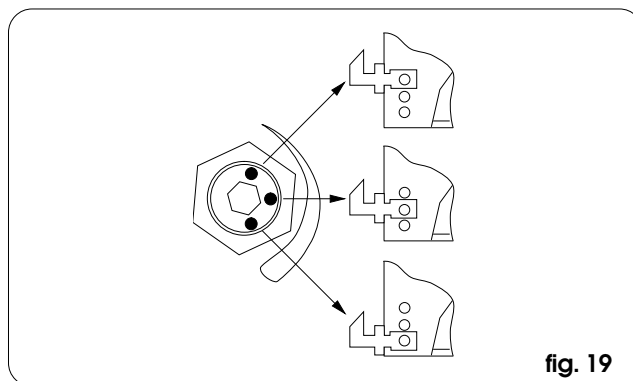

fig. 19
- depending on the height adjustment effected on the leaves, you may have to move both hooks onto another hole (refer to fig. 19 to find it according to the position of the mark on the adjusting dowel of the sliding wheel).